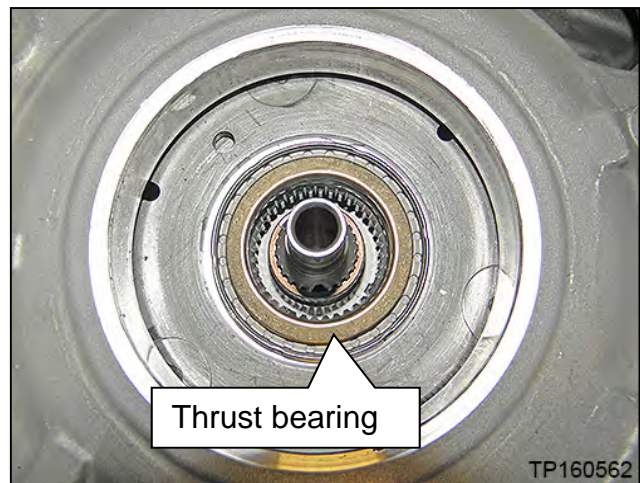

Figure 86
67. Remove the thrust bearing from the planetary carrier plate (Figure 86).